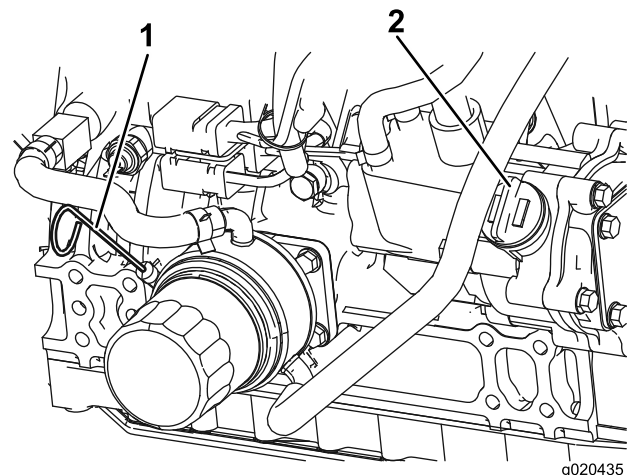

Figure 59
3. Remove the dipstick, wipe it clean, install the dipstick into the tube, and pull it out again. The oil level should be between the full and add marks (Figure 59).
4. If the oil level is low, remove the fill cap (Figure 59) and add oil until it is between the full and add marks. **Do not overfill.**